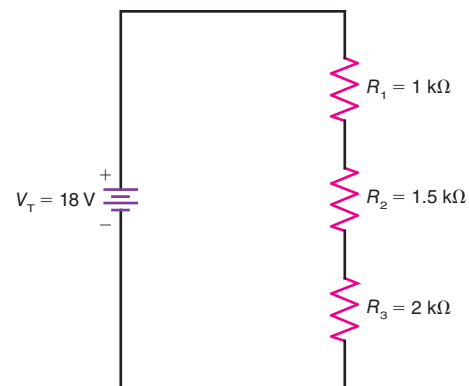

Figure 7-33
- 7.28** In Fig. 7-33, calculate V_1 , V_2 , and V_3 .